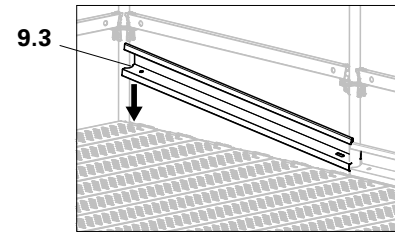

Fig. A12.02b
2. Pivot in the direction of the second Standard UVR (3). (Fig. A12.02b)